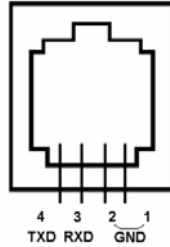

Figure 19. Serial port pin out on an 8407 hand controller
- Serial port: connect the HC to a Computer via a RS232 to 4-wire RJ9 cable. The pin out of the serial port is shown in Figure 19.